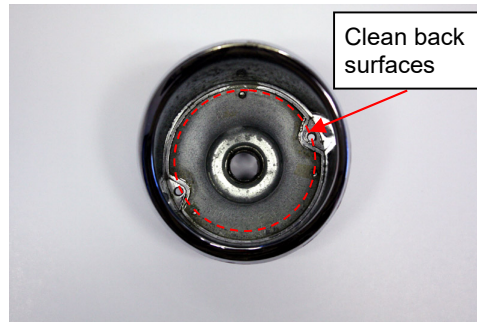

Figure 1
2. Clean the inner surfaces of the Taillight housings. (See Figure 1) Note: These surfaces must be clean and dry to assure the best adhesion of the mounting tape that will hold the LED panels in position.